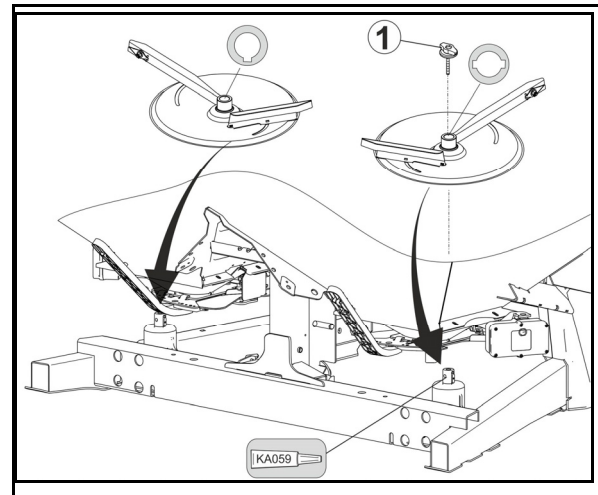

Fig. 61
1. Remove the wing nut (Fig. 61/1).